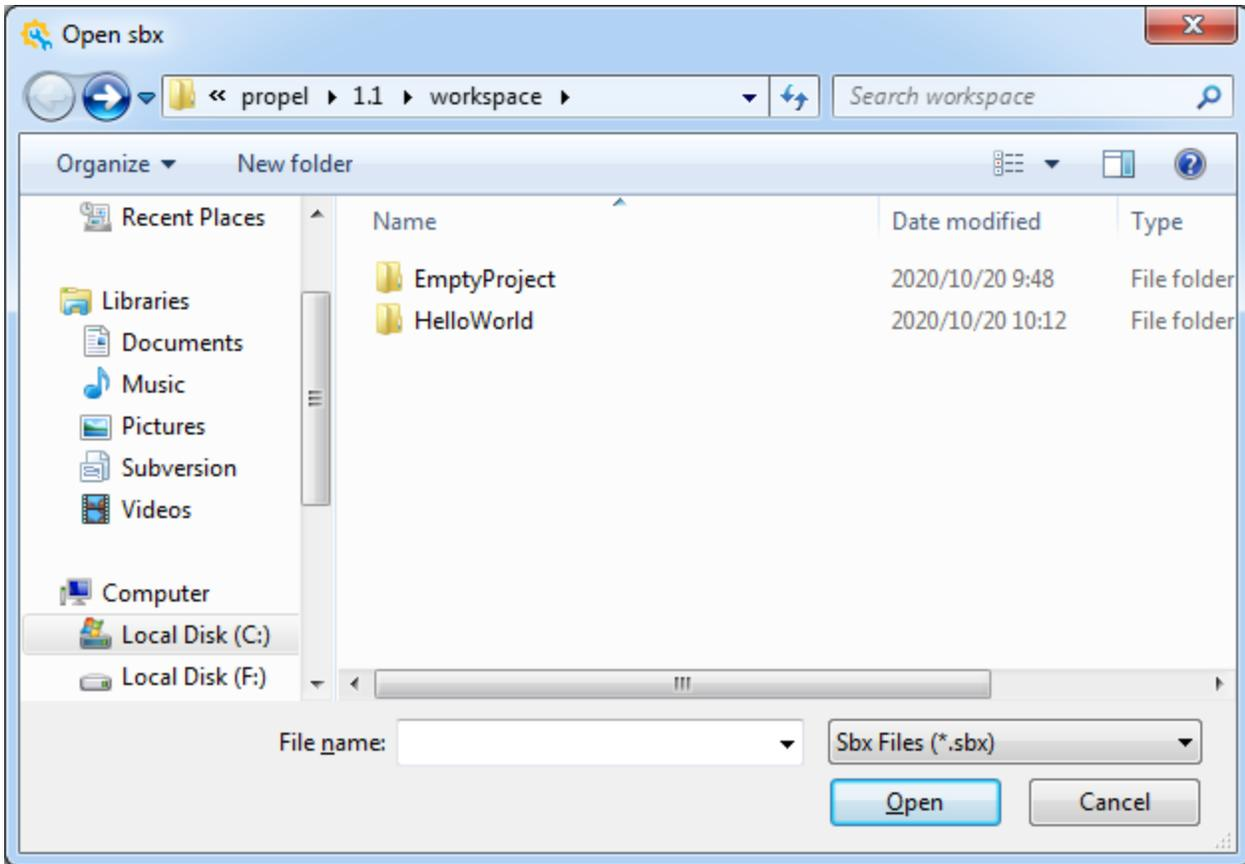

Figure 2.12. Open Sbx Dialog
1. Choose **File** >  **Open Design** from Propel Builder GUI Menu or Click **Open Design** icon  from Propel Builder GUI Toolbar. The Open sbx dialog opens (Figure 2.12)